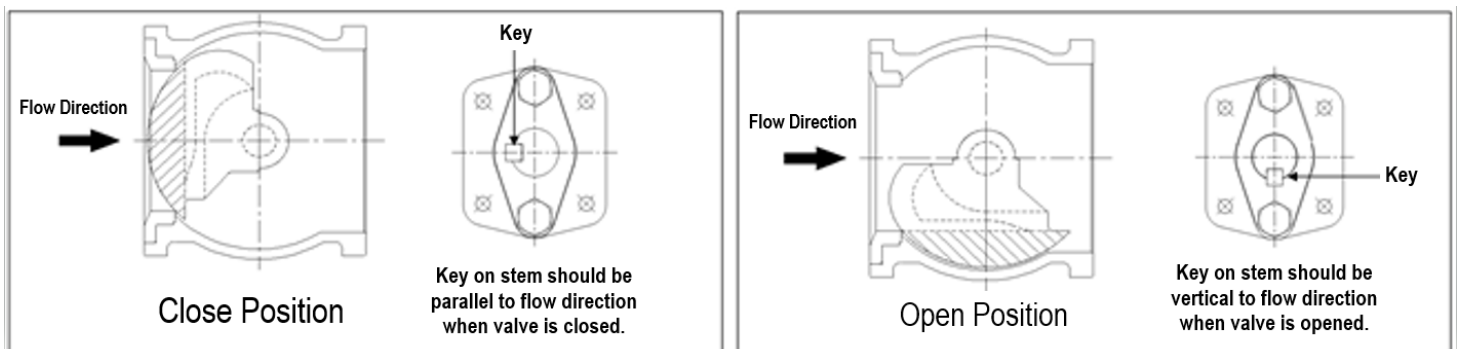

Figure 1
- 5.7. The segment should be in the closed position as shown below in **Figure 1** before installing the seat (6) and cover (5).
- 6.8. Insert stem (3) into body (1) and segment (2) while maintaining correct position as shown in **Figure 1**. Insert shaft (4) into body (1) and segment (2).